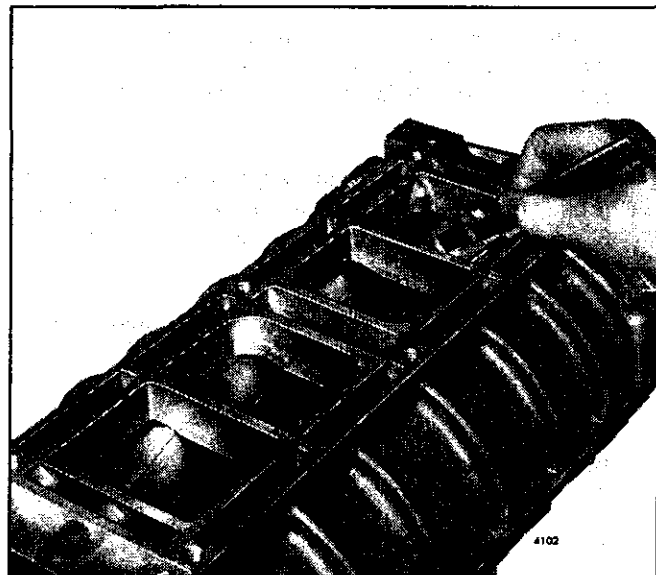

Fig. 21 – Measuring End Clearance Between Blower Rotors and End Plate
8. Determine the minimum clearances at points "A" and "B" shown in Fig. 19. Insert the feeler gages, as shown in Fig. 21, between the end plates and the ends of the rotors. This operation must be performed at the ends of each lobe, making 12 measurements in all. Refer to Fig. 19 for the minimum clearances.